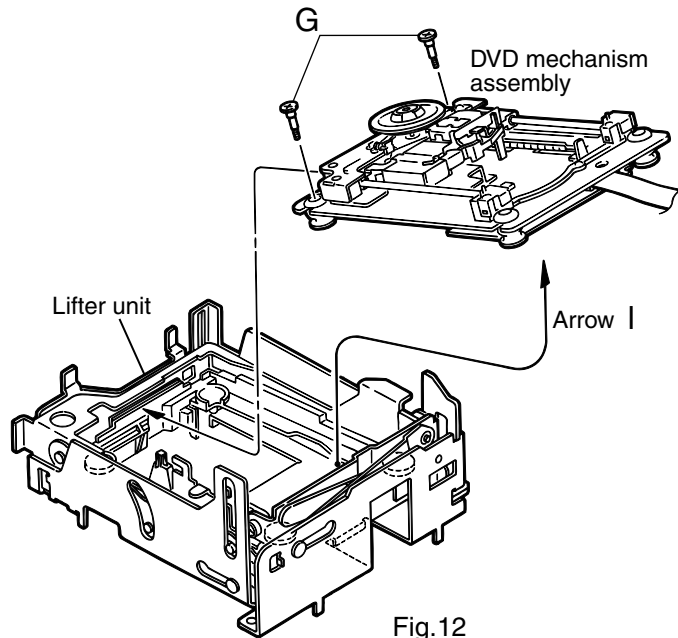

Fig.12
3. Remove the DVD mechanism assembly in the arrow direction l from the lifter unit (See Fig. 12)